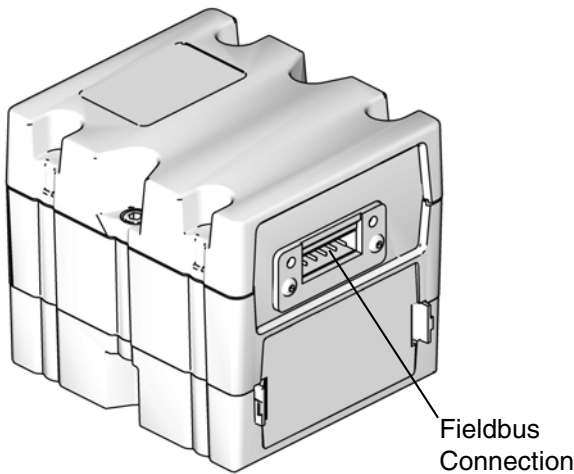

Fig. 24: CGM Fieldbus Connection
- Connect the Ethernet, DeviceNet, or PROFIBUS cable to the fieldbus connection on the CGM as applicable. See **Figure 24**.